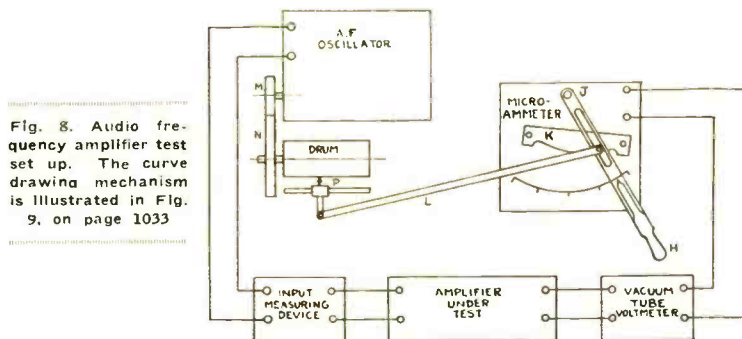

Fig. 8. Audio frequency amplifier test set up. The curve drawing mechanism is illustrated in Fig. 9, on page 1033
2. A quicker method, and one in which a continuous measurement is made of all points along the frequency range is shown in general outline, with the necessary apparatus arrangement in Fig. 8. Here the shaft of the oscillator variable condenser is geared, by some convenient means, shown here as the gears M and N , to